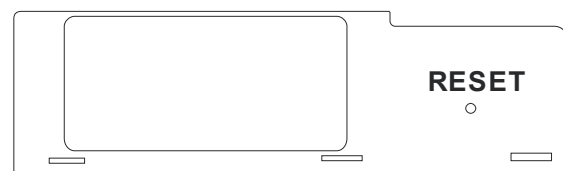

Figure 83
1. Press and hold, using a pointed object, the receiver's reset button until you hear two acoustic signals (see **Figure 83**).